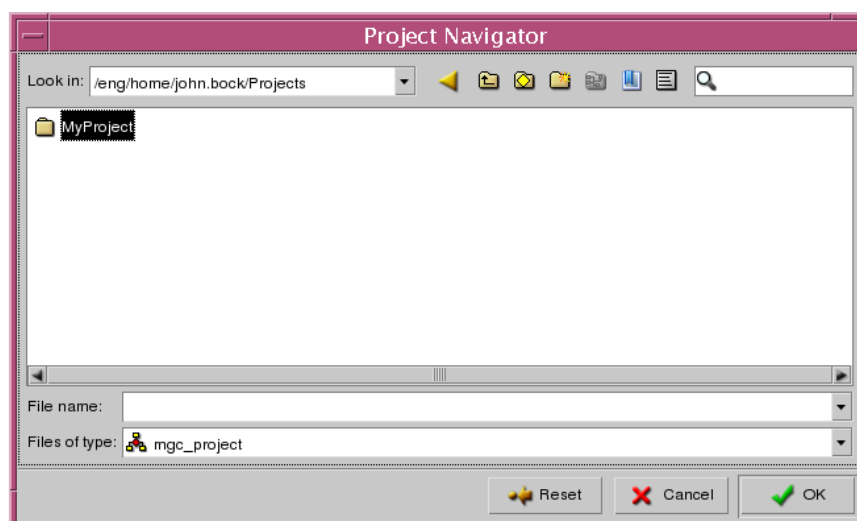

Figure 5: Project Navigator Dialog Box
- c. Create a new directory for your project (for example, **MyProject**) then select it (see Figure 5).